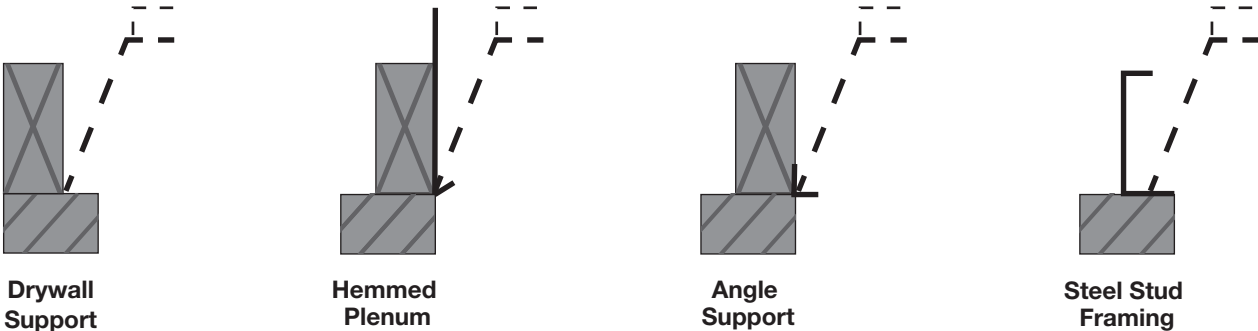

Figure 3 (Step 3B): Hanger Support Options
- B. There are several ways to support the hanger brackets – see Figure 3.